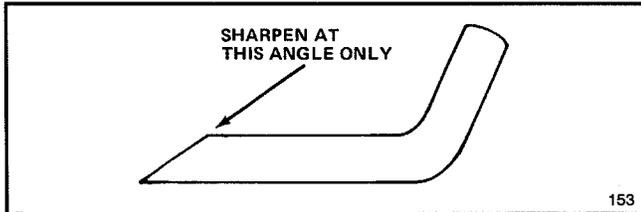

Figure 26
6. **SHARPENING BLADE**—Using a file, sharpen top side of blade and maintain original cutting angle (Fig. 26). The blade remains balanced if the same amount of material is removed from both cutting edges.